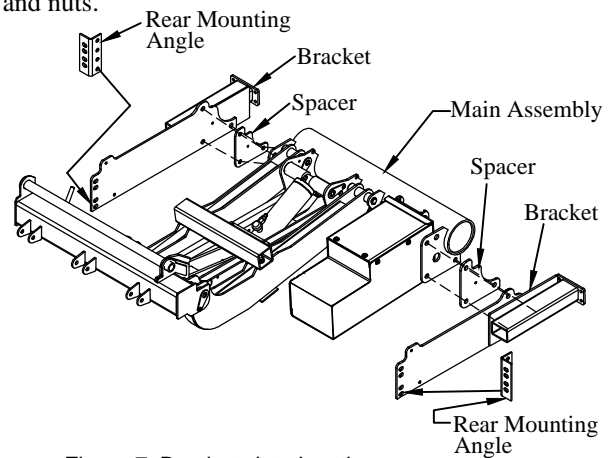

Figure 7: Bracket plate locations.
- 8. Install** the brackets on the main assembly using six (6) 5/8" x 1-1/2" bolts, lock washers, and nuts. The bolt head and lock washer should be on the outside (Figure 7).
- 9. Install** rear mounting angles with four (4) 1/2" x 1-1/4" bolts, lock washers, and nuts. Position the rear mounting angles using the bottom set of holes and slots.